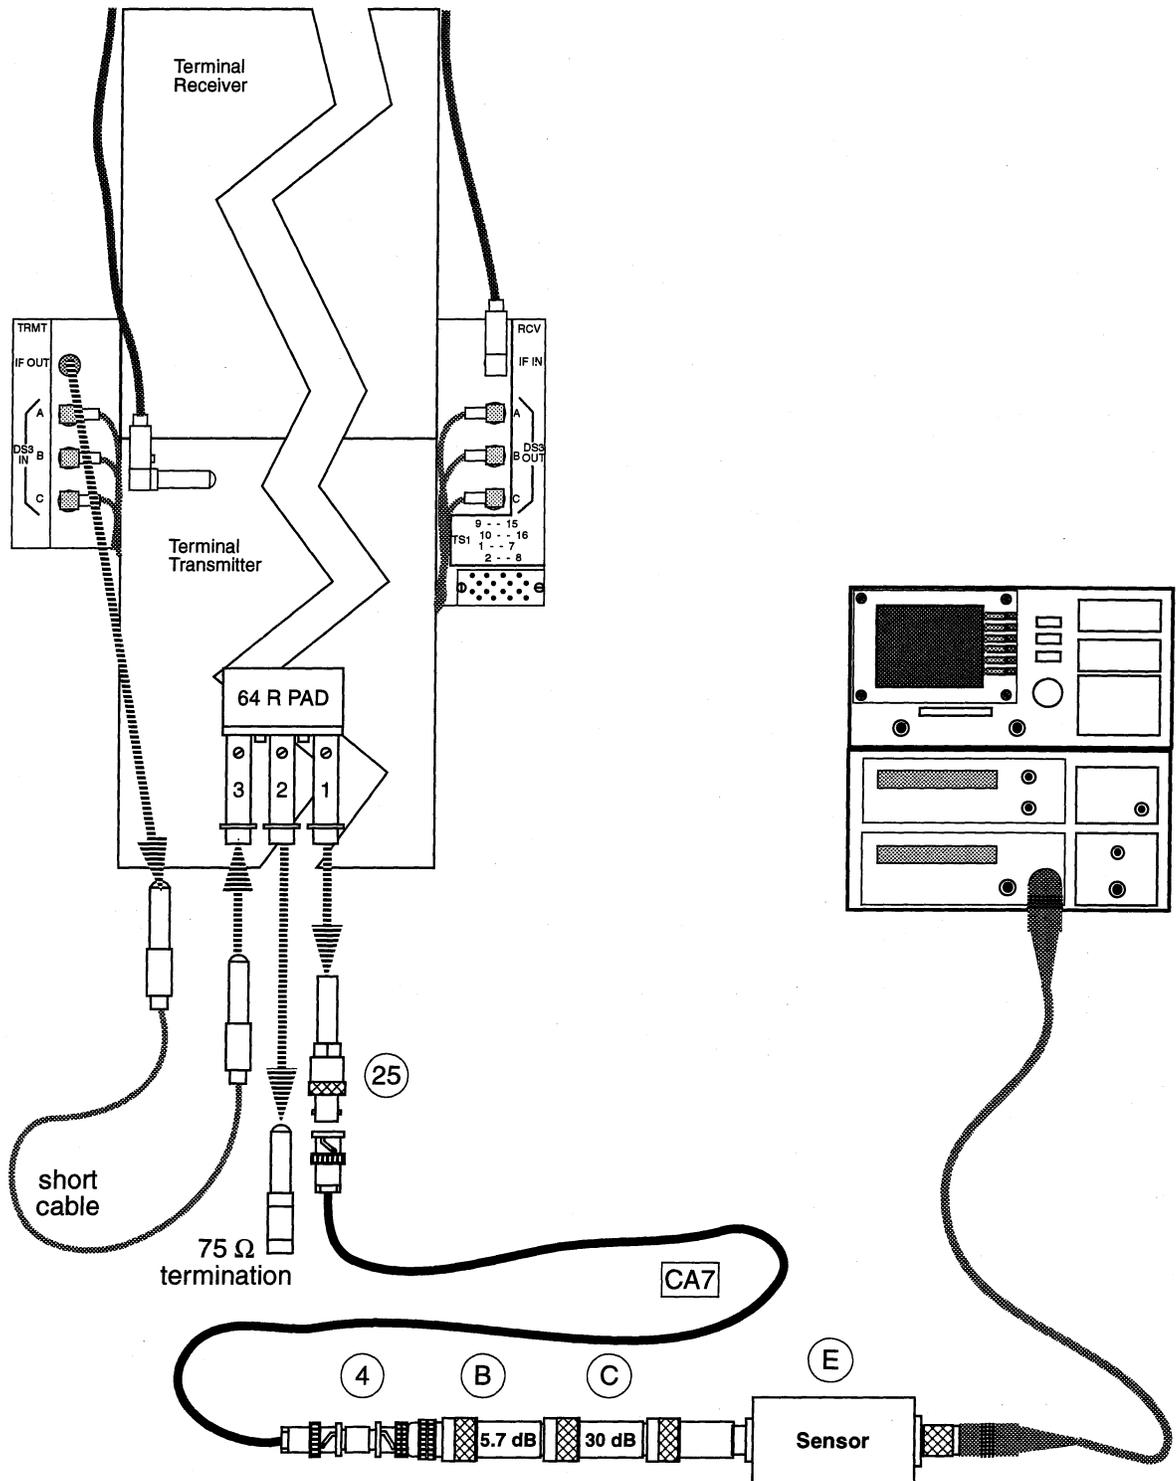
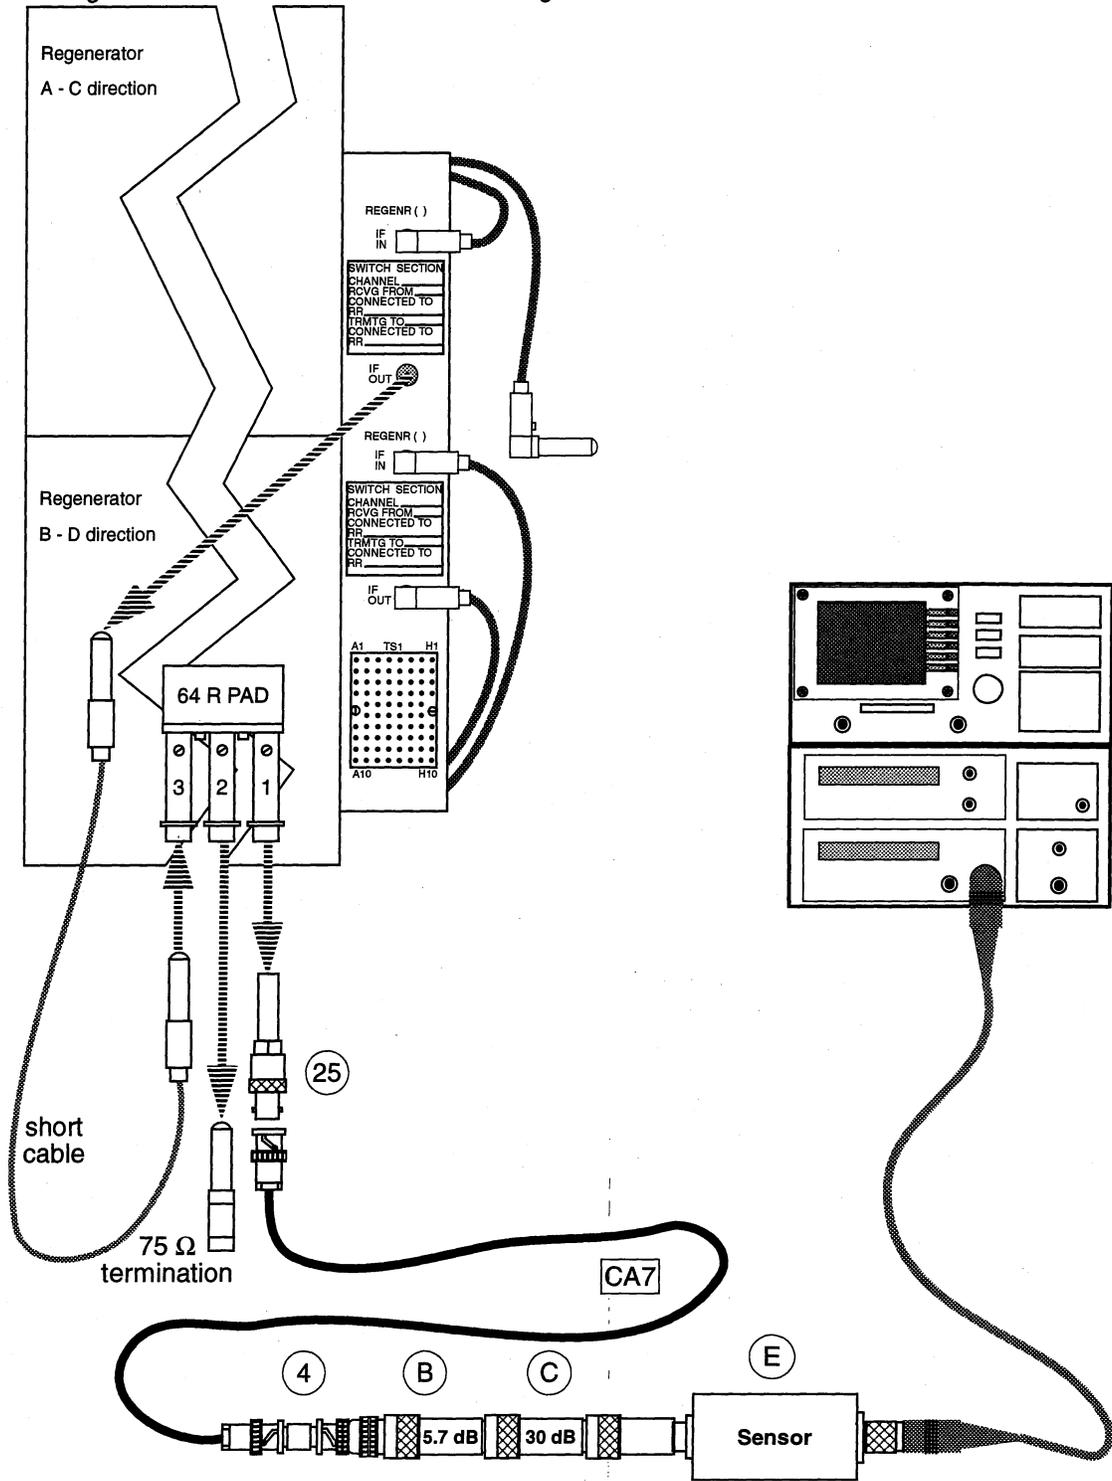

Figure 9. Terminal Loopback—Measure "S"
Figure 10. Regenerator Loopback—Measure "S"
- 5 Connect the test equipment as shown in Figure 9 (Terminal) or Figure 10 (Regenerator).
*Comment: In Figure 10 the Regenerator A - C direction is illustrated. The lower jacks are for the B - D direction.*